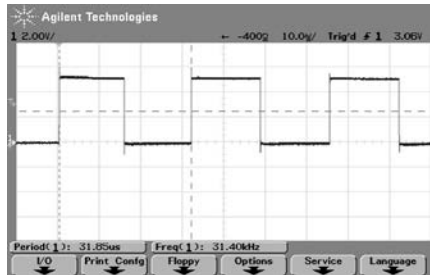

Figure 4.
6. Verify the comparator square wave on Pin 7 of U9 (Figure 4, below). Turn OFF three of the channels (set the three Sensitivity Level DIP switches to the **OFF** position) to verify the operation of the remaining channel.